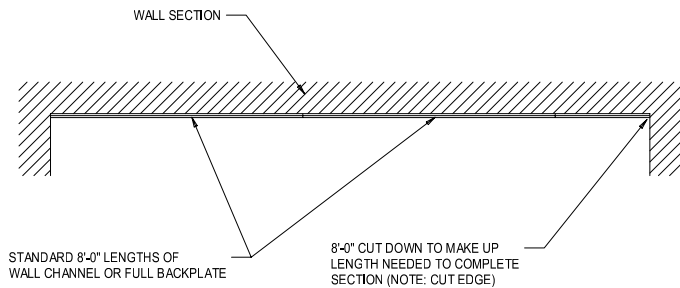

FIGURE W-1
- (1b) Cut the snap mounting channel or or snap full height backplate to the desired length. The channel and backplate are furnished in lengths of 4'-0" or 8'-0". Combine multiple lengths if needed. When joining two pieces, make sure that the cut end is at the end of the run. (FIGURE W-1)